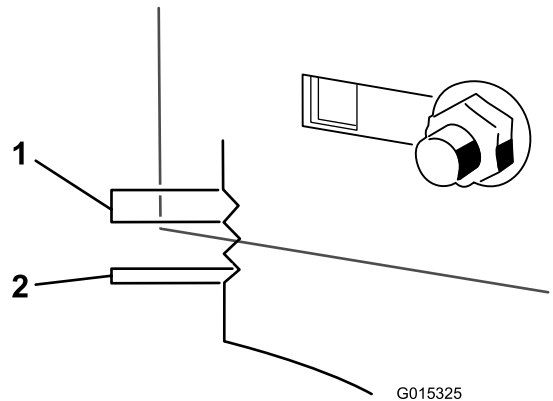

Figure 52
10. Use the notches on the welded bracket to measure the amount of adjustment. Each notch surface is equivalent to 0.25 inch, while a single side is 0.125 inch (Figure 52). Adjust the height of the mower deck to the desired height.